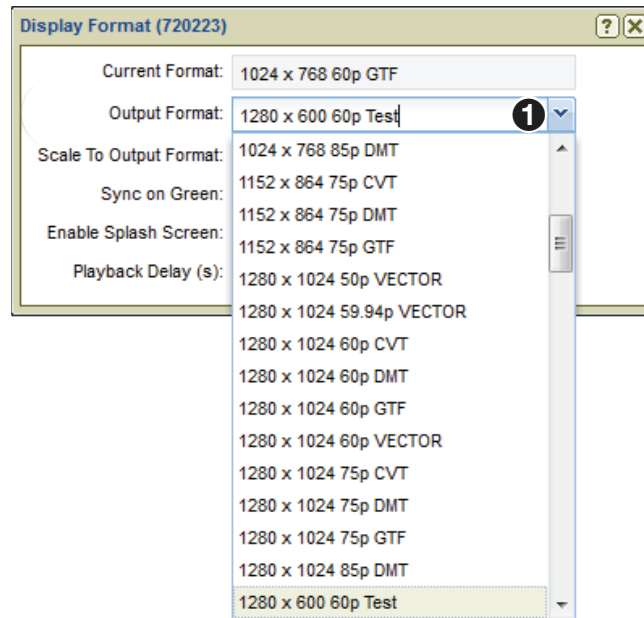

Figure 144. Display Format Menu
16. From the **Actions** menu bar at the bottom of the **Devices** page, click **Format**. The **Display Format** dialog box opens (see figure 144).
17. Select the new display format created in step 13 from the **Output Format** drop-down list (see figure 144, ①). The new display format is applied and the image is displayed.